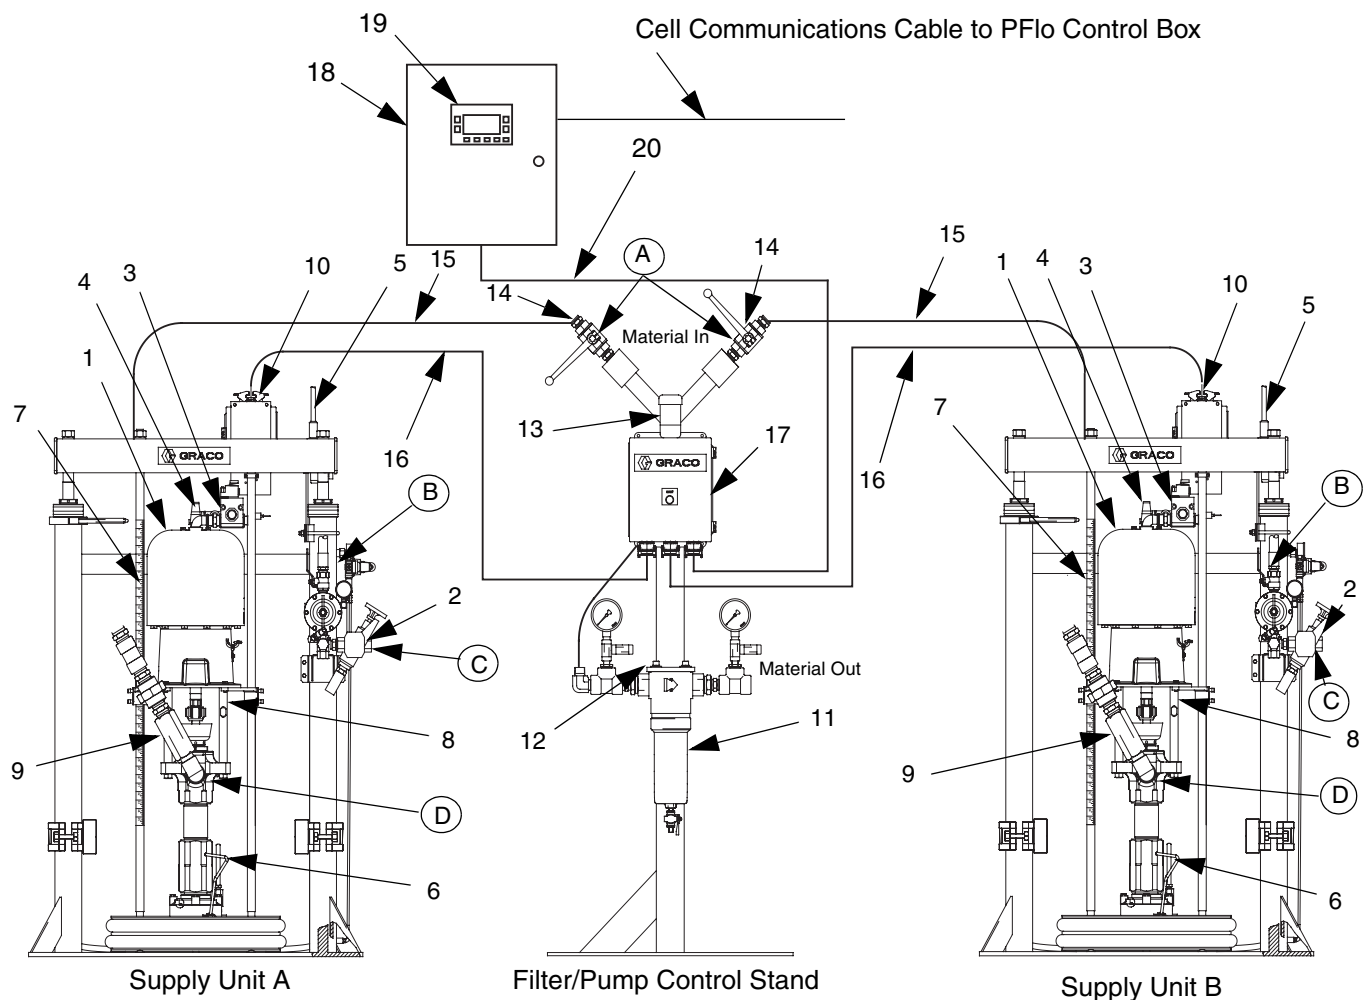

FIG. 1
Reference numbers in parentheses in the text refer to the callouts in FIG. 1.
2. Close dispenser ball valves (A). Disconnect ball valves from system. See FIG. 1.
3. Close pump air bleed valve (B).
4. Shut off main air bleed valve (C) required in your system. Set ram director valve to DOWN. Ram will slowly drop.
5. Open the drain valve (required in your system) and/or the pump bleeder valve (D). Have a container ready to catch the drainage.
1. Mount the pump control box (18) near the tandem bulk pump unloaders. To function correctly the pump control box must be located within 20 ft of the pump function module (17). See FIG. 1.